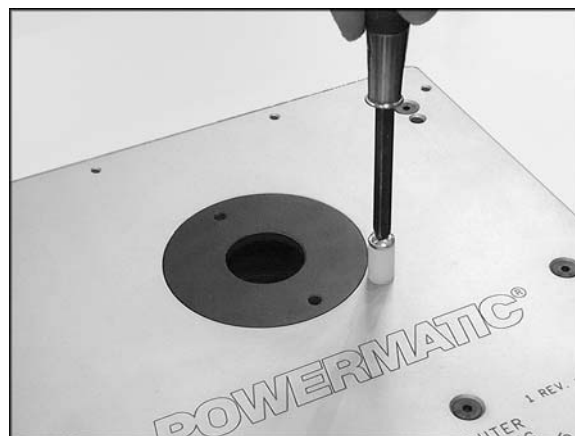

Figure 18
6. A starting pin is provided to assist in certain freehand operations when the fence is not used. Thread the pin into the router plate with a screwdriver (Fig. 18).